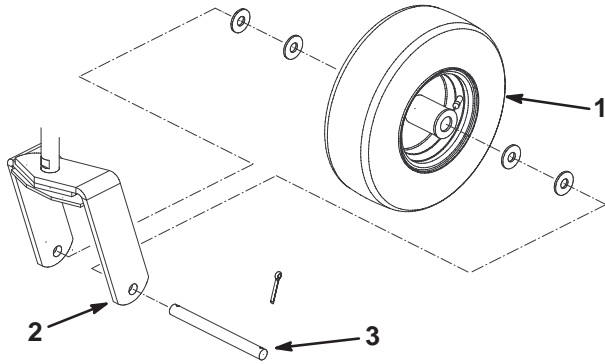

Figure 3
1. Install a castor wheel assembly between each castor fork with (4) washers, axle and (2) cotter pins (Fig. 3).